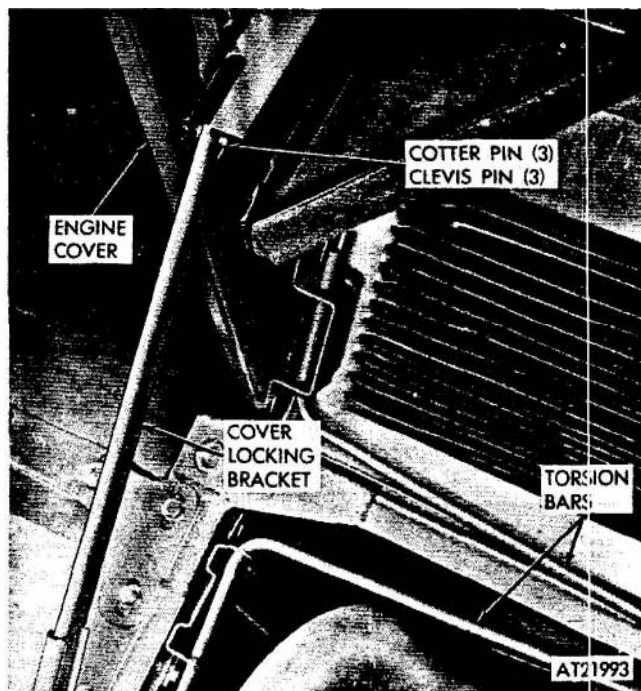

Figure 2-341. Engine cover, removal and installation.
(1) Open and secure engine cover (refer to TM 9-2320-242-10).
(2) Pull torsion bars out of holes in cover bracket (fig 2-341).
(3) Remove cotter pin and clevis pin securing cover locking bracket to tractor.
(4) Remove eleven nuts, washers, and screws securing engine cover assembly to tractor body. Remove cover.
(1) Position cover assembly to tractor body and secure with eleven screws, washers, and nuts (fig 2-341).
(2) Position and secure cover locking bracket to tractor with clevis pin and cotter pin.
(3) Install torsion bars into holes in cover brackets. Adjust torsion bars, if necessary, by removing torsion cover bracket and insert **torsion** bar into one of two positions that will give zero torque with cover in vertical position.
(4) Close and secure engine cover (refer to TM 9-2320-242-10).